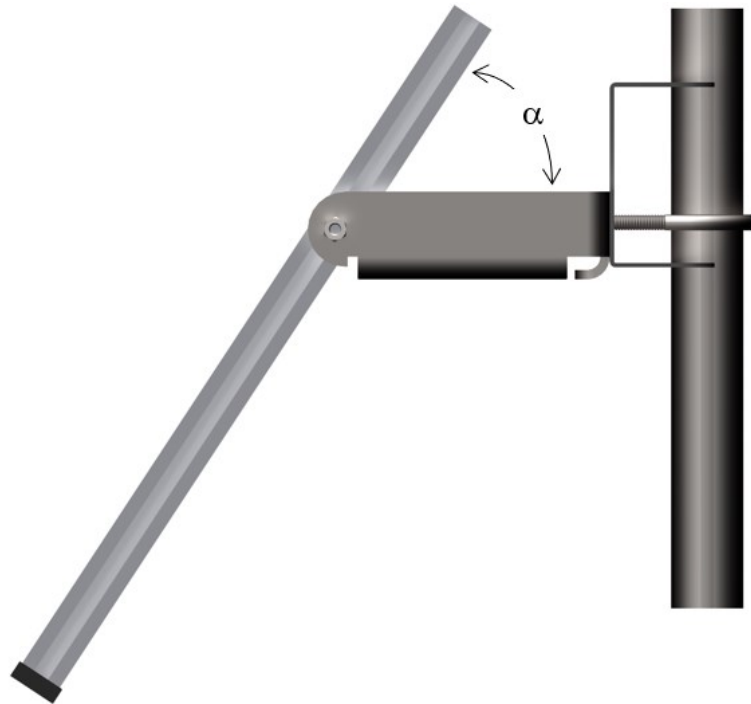

FIGURE 6-43. Side view of solar panel shows tilt angle
2. Mount the solar panel to the pole so it faces south (northern hemisphere). Position it as high off the ground as practical, ensuring it cannot interfere with air flow or sunlight around the sensors. The solar panel should be oriented to receive maximum insolation over the course of the year. Suggested tilt angles referenced to the horizontal plane (FIGURE 6-43 (p. 62)) are listed in Table 6-1 (p. 61).
5. Secure the wire to the mast using wire ties (FIGURE 6-43 (p. 62)).